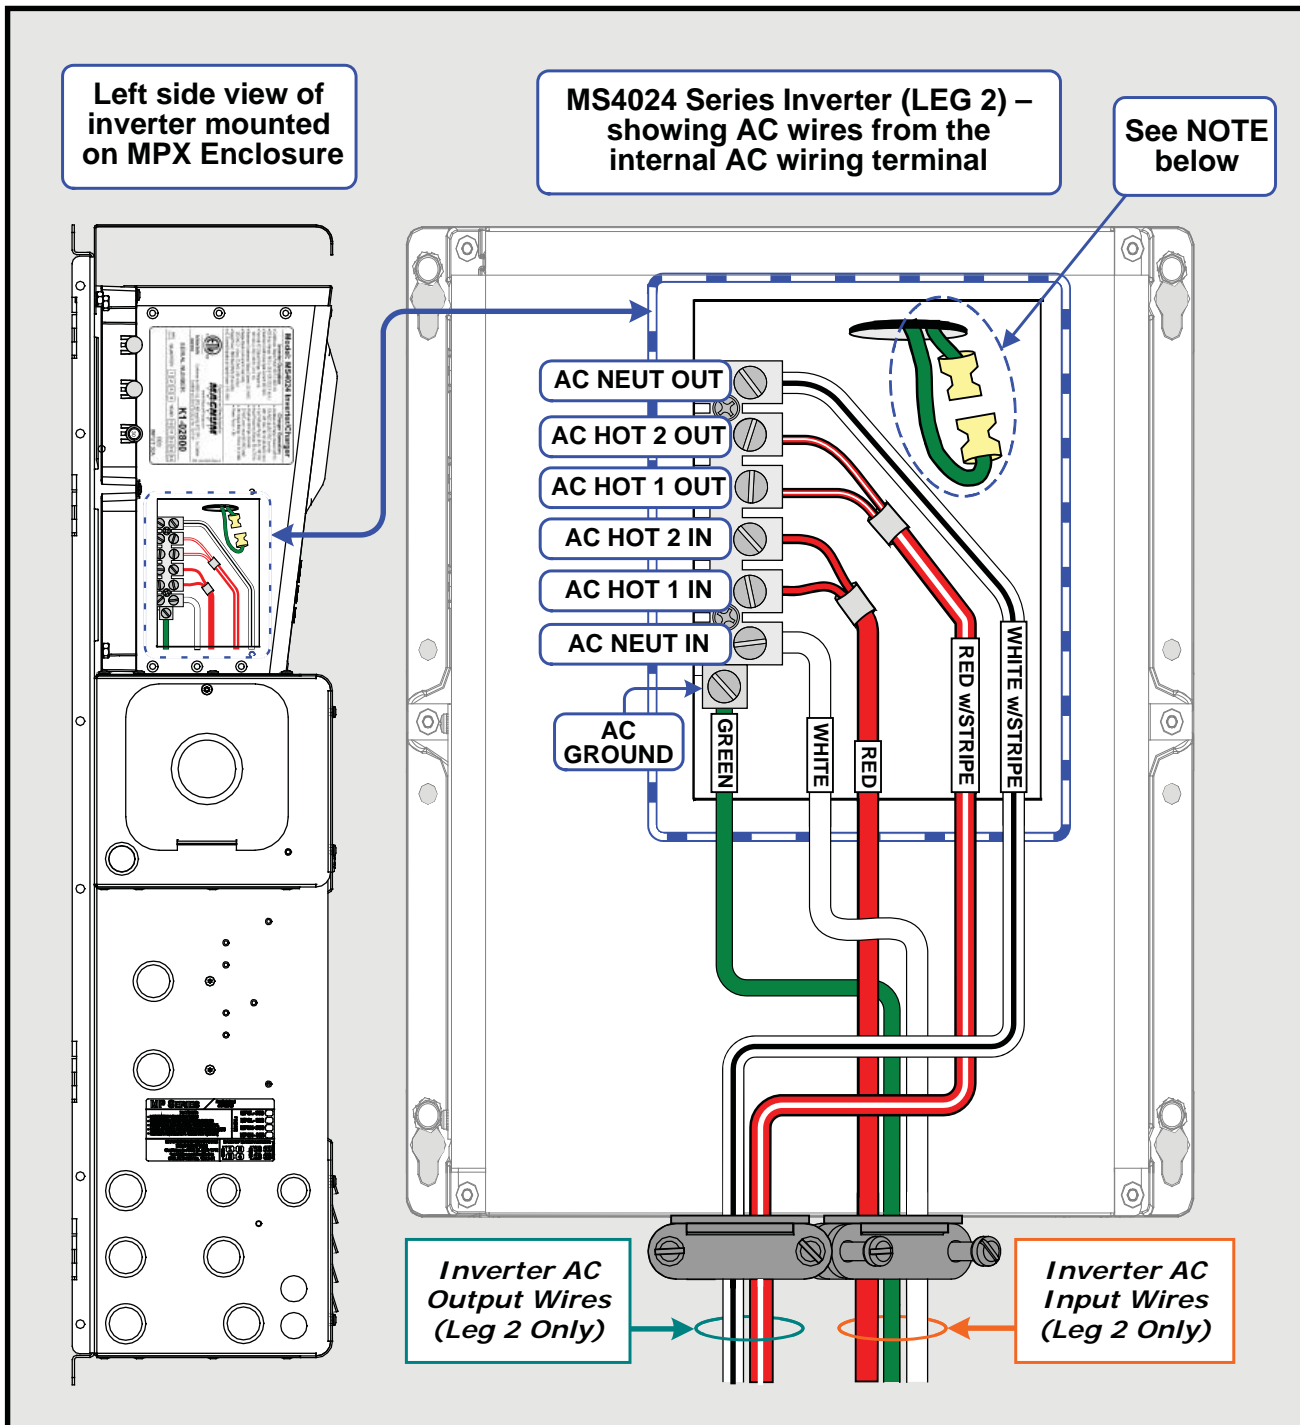

Figure 3-20a, Inverter AC Input and Output Wiring Diagram
**Inverter AC Input Wiring** (see Figures 3-20a and 3-21a)
**Inverter AC Output Wiring** (see Figures 3-20a and 3-21a)